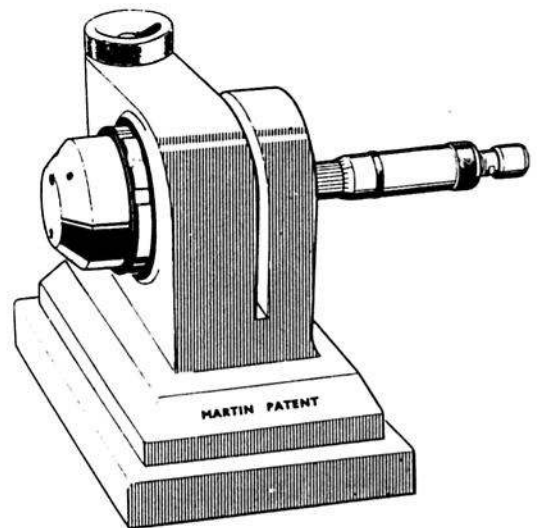

Fig. 4. Testing the barostat
- (2) Ensure that the face of the barostat and the receiving face of the instrument are perfectly clean and free from grit.
- (3) Set the micrometer to approximately 0.620 in. This will ensure that the barostat pin is not damaged when the unit is fitted. Screw the barostat into the instrument (fig. 4).
- (4) Adjust the micrometer sleeve until contact is made with the barostat pin, i.e., the signal lamp lights.
- (5) Set the indicator to the ambient barometer reading in millibars Q.F.E. (left-hand window). The correct micrometer reading (in red figures) will then be visible in the right-hand window.